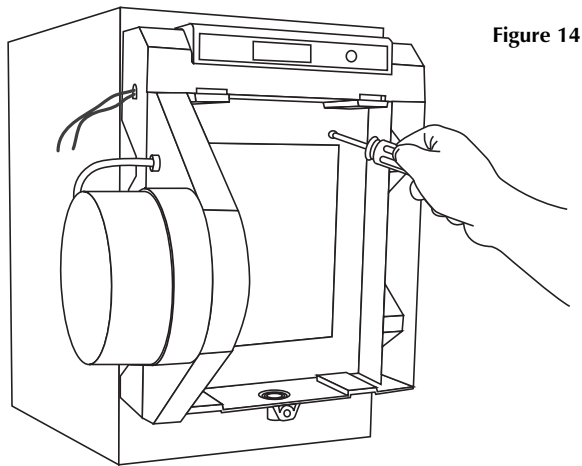

Figure 14
- Mount the humidifier cabinet on the duct with 4 of the screws from the installation package. Level the humidifier before tightening the screws. (fig. 14)